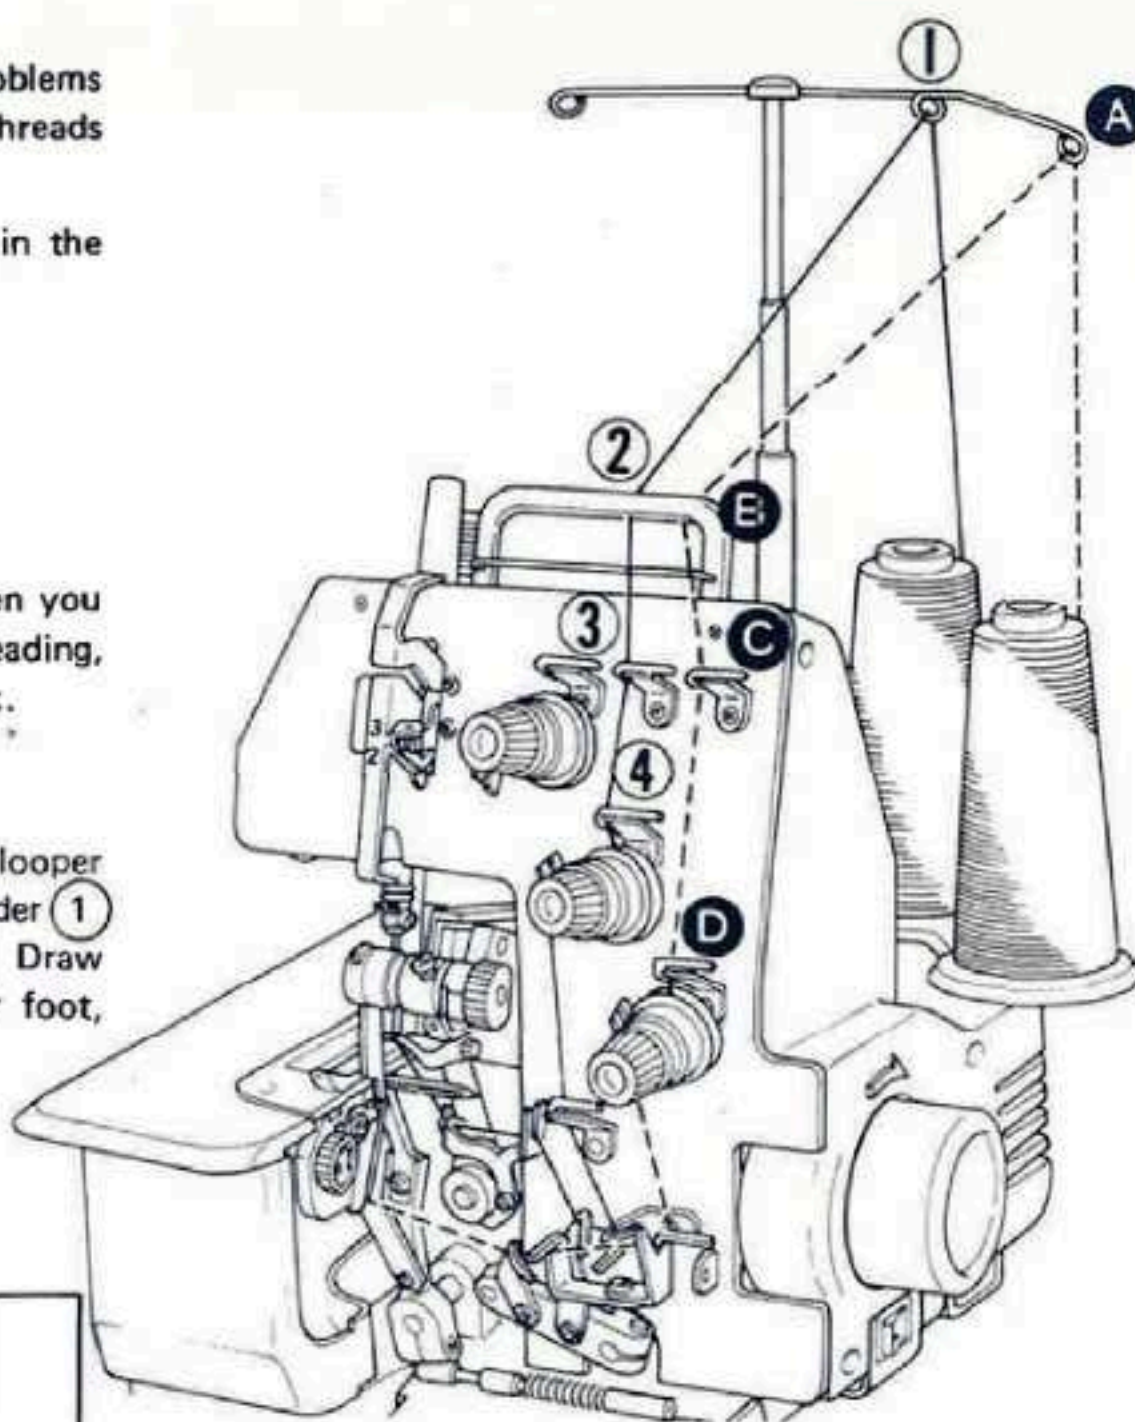

Figure 7
1. Open front cover. Thread upper looper according to yellow guides in the order ① to ⑫ as shown Figures 7 & 8. Draw thread back under rear of presser foot, leaving about 10 cm of thread.
2. Open side cover. Thread lower looper according to green guides in the order **A** to **L** as shown Figures 7 & 8.